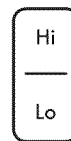
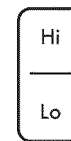

Fig. 5
Fig. 6
4. To set power level press **Hi** or **Lo** keypad and if needed toggle the **Hi** or **Lo** keypads to adjust to the desired power level setting. Each touch of the **Hi** or **Lo** key pad will decrease or increase the power level by 1/2 from 9.0 through 3.0. Simmer power levels between 3.0 and 1.2 will decrease or increase by .2 increments. Hi (Fig. 5) is the highest power level. Lo (Fig. 6) is the lowest power level available.